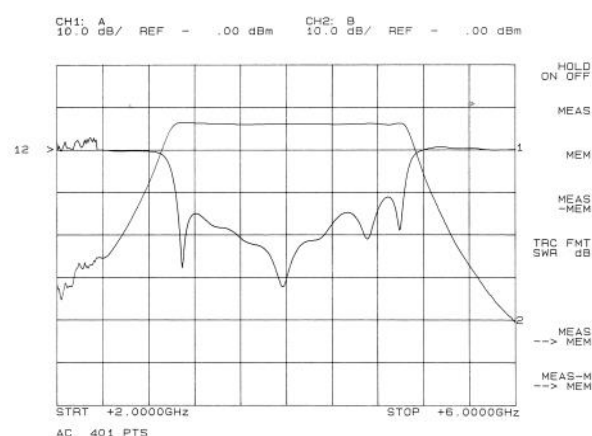

Figure 10. The Display Menu
The **[DISPLAY]** function key presents the display menu, which allows the operator to control the display mode for the active channel. This menu (shown in Figure 10) lets you display (1) the measurement (**[MEAS]**), (2) the trace memory of the active channel (**[MEM]**), or (3) the difference between these (**[MEAS-MEM]**). The **[MEAS-MEM]** display mode is ideal for displaying normalized measurements used in calibration (see **[CAL]**). **[MEAS-M→MEM]** stores the normalized trace in memory.